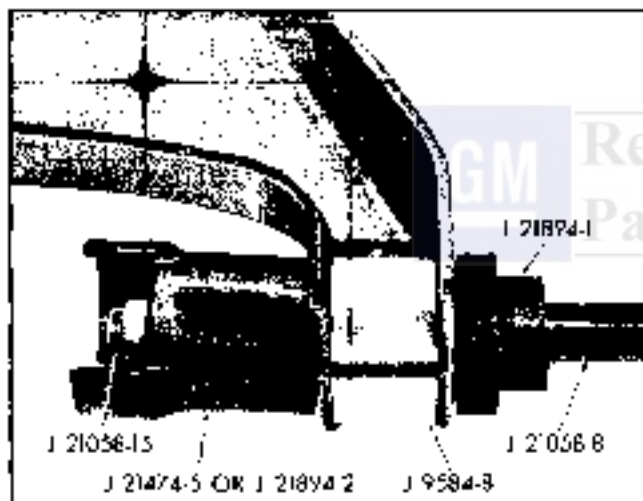

Fig. 3-17 Installing Pontiac Lower Control Arm Front Bushing or Tempest Lower Control Arm Rear Bushing
3. To replace bushing in lower control arm, arrange tools as shown in Figure 3-17 and press bushing into arm.